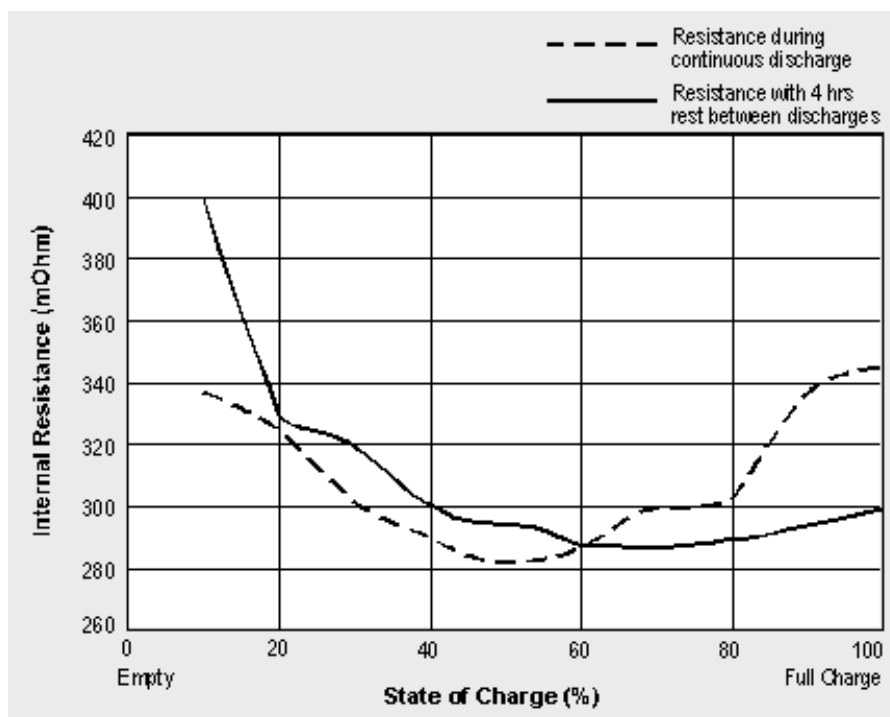

Figure 13-1: Internal resistance in a NiMH battery.
**Internal resistance** — To measure the impedance, a battery must be at least 50 percent charged. An empty or nearly empty battery exhibits a high internal resistance. As the battery reaches 50 percent SoH, the resistance drops, then increases again towards full discharge or full charge. Figure 13-1 shows the typical internal resistance curve of a NiMH as a function of charge. Note the decrease of impedance after the battery has rested for a while. To obtain accurate results, allow the battery to rest after discharge and charge.